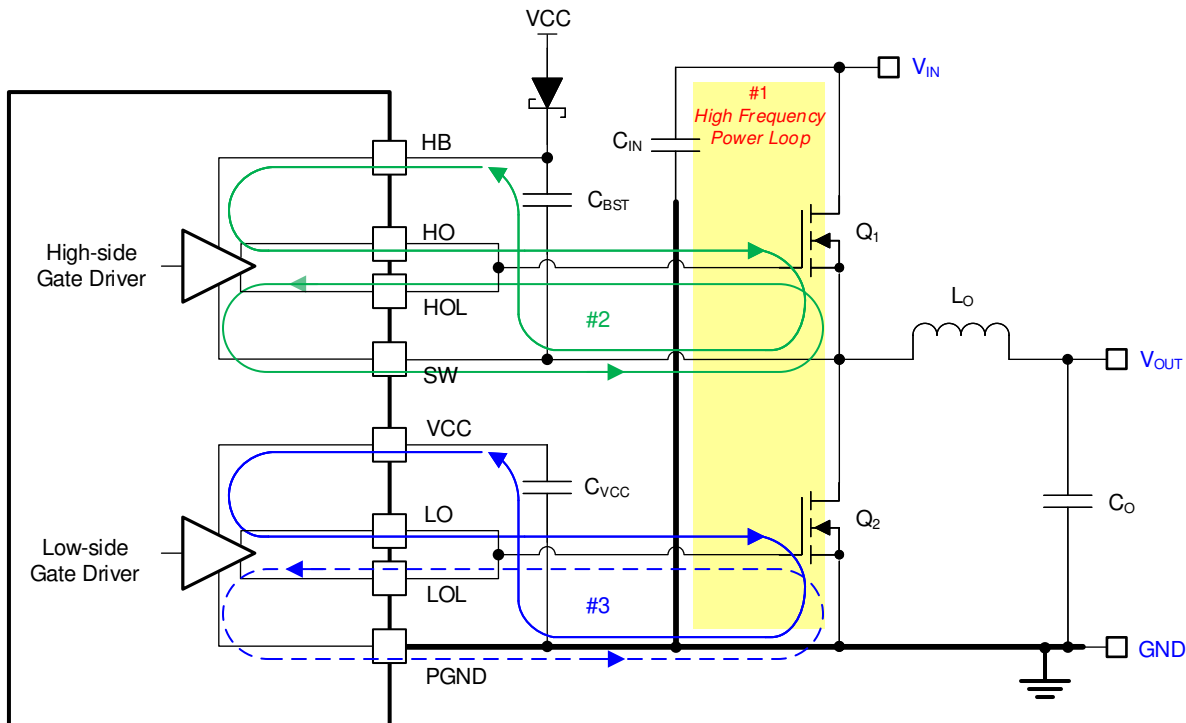

图 11-1. DC/DC Regulator Ground System With Power Stage and Gate Drive Circuit Switching Loops
Proper PCB design and layout is important in a high-current, fast-switching circuits (with high current and voltage slew rates) to achieve a robust and reliable design. As expected, certain issues must be considered before designing a PCB layout using the LM5143-Q1. The high-frequency power loop of a buck regulator power stage is denoted by loop 1 in the shaded area of 图 11-1. The topological architecture of a buck regulator means that particularly high di/dt current flows in the components of loop 1, and it becomes mandatory to reduce the parasitic inductance of this loop by minimizing its effective loop area. Also important are the gate drive loops of the low-side and high-side MOSFETs, denoted by 2 and 3, respectively, in 图 11-1.
- Loop 1: The most important loop area to minimize is the path from the input capacitor or capacitors through the high- and low-side MOSFETs, and back to the capacitor or capacitors through the ground connection. Connect the input capacitor or capacitors negative terminal close to the source of the low-side MOSFET (at ground). Similarly, connect the input capacitor or capacitors positive terminal close to the drain of the high-side MOSFET (at V_{IN}). Refer to loop 1 of 图 11-1.
5. The SW pin connects to the switch node of the power conversion stage and acts as the return path for the high-side gate driver. The parasitic inductance inherent to loop 1 in Figure 11-1 and the output capacitance (C_{OSS}) of both power MOSFETs form a resonant circuit that induces high frequency (greater than 50 MHz) ringing at the SW node. The voltage peak of this ringing, if not controlled, can be significantly higher than the input voltage. Make sure that the peak ringing amplitude does not exceed the absolute maximum rating limit for the SW pin. In many cases, a series resistor and capacitor snubber network connected from the SW node to GND damps the ringing and decreases the peak amplitude. Provide provisions for snubber network components in the PCB layout. If testing reveals that the ringing amplitude at the SW pin is excessive, then include snubber components as needed.
- Loop 2: high-side MOSFET, Q_1 . During the high-side MOSFET turnon, high current flows from the bootstrap (boot) capacitor through the gate driver and high-side MOSFET, and back to the negative terminal of the boot capacitor through the SW connection. Conversely, to turn off the high-side MOSFET, high current flows from the gate of the high-side MOSFET through the gate driver and SW, and back to the source of the high-side MOSFET through the SW trace. Refer to loop 2 of Figure 11-1.
- Loop 3: low-side MOSFET, Q_2 . During the low-side MOSFET turnon, high current flows from the VCC decoupling capacitor through the gate driver and low-side MOSFET, and back to the negative terminal of the capacitor through ground. Conversely, to turn off the low-side MOSFET, high current flows from the gate of the low-side MOSFET through the gate driver and GND, and back to the source of the low-side MOSFET through ground. Refer to loop 3 of Figure 11-1.